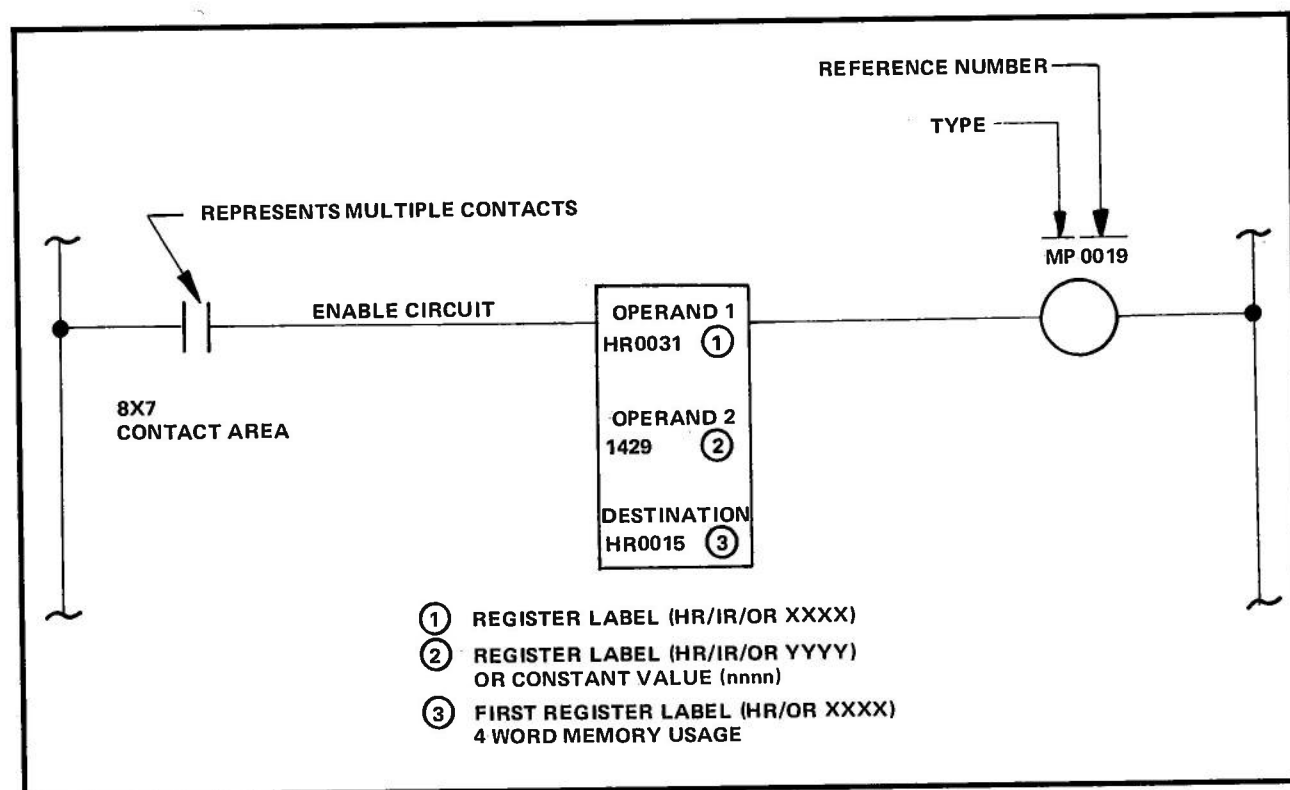

Figure 1. Multiply (MP)
The Multiply (MP) function multiplies two, four-digit decimal numbers (up to 9999). This multiplication results in a number of up to eight decimal digits (up to 99,930,001). MP function symbology is shown in Figure 1.